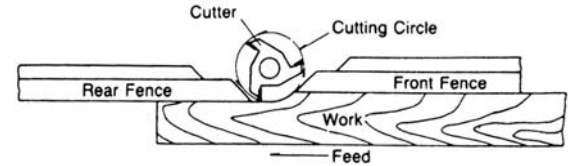

Figure 10
3. The rear fence should be advanced to contact the work as shown in Figure 10. The rear fence will then be in line with the cutting circle.